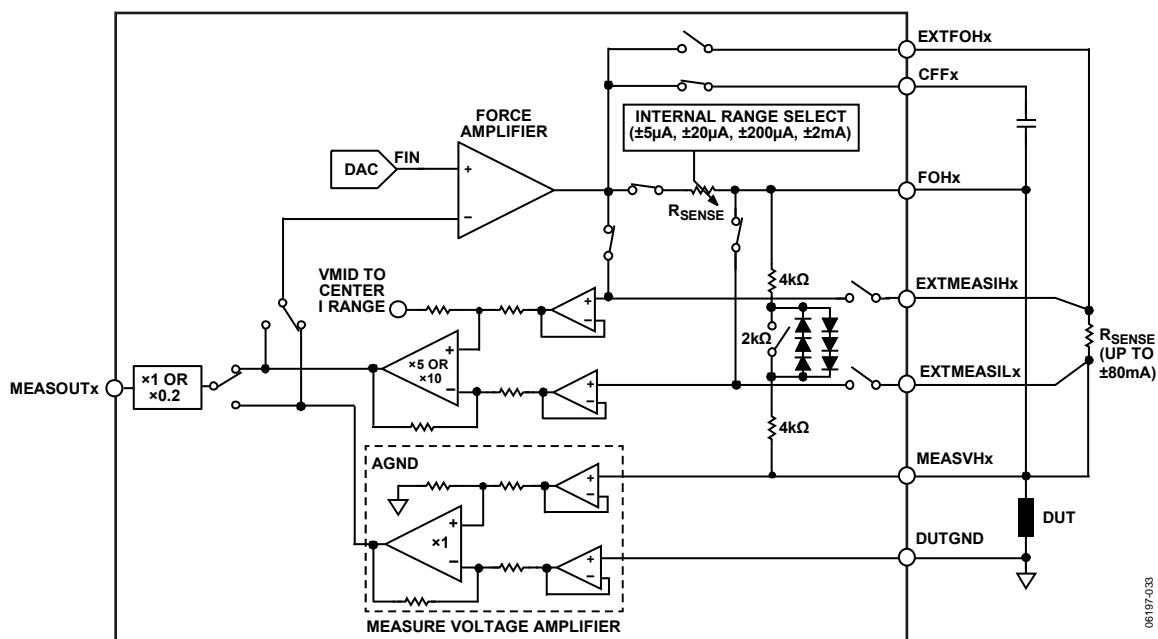

Figure 54. Forcing Voltage, Measuring Current
Most PMU measurements are performed in force voltage/measure current (FVMI) mode, for example, when the device is used as a device power supply, or in continuity or leakage testing. In force voltage (FV) mode, the voltage forced is mapped directly to the DUT. The measure voltage amplifier completes the loop, giving negative feedback to the forcing amplifier (see Figure 54).